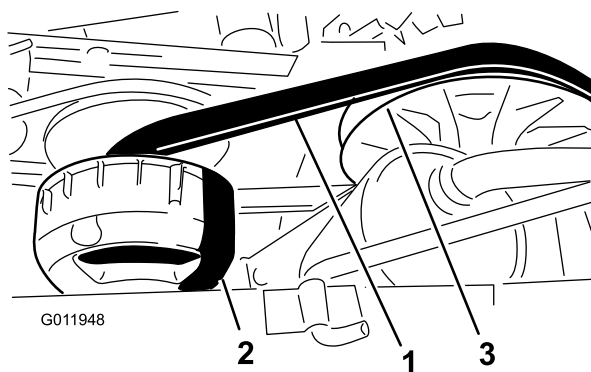

Figure 63
4. Rotate and inspect the belt (Figure 63) for signs of excessive wear or damage.
3. Rotate and route the belt over the secondary clutch (Figure 63).
4. Remove the belt from the primary clutch (Figure 63).
5. Align the new belt over the primary clutch (Figure 63).
6. Rotate and route the belt over the secondary clutch (Figure 63).